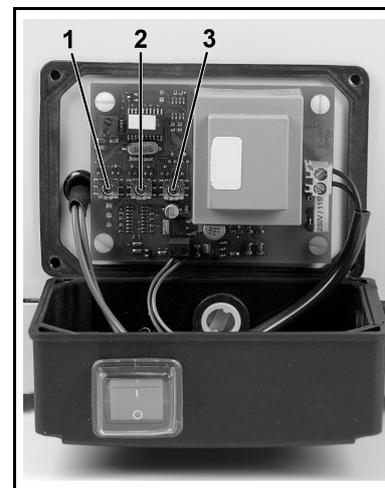

Fig. 4: Control box (opened) of drying system with switches 1, 2, 3
3. At the control box, loosen the collar nut of the cable inlet. Use a slotted screwdriver to release the four screws, then fold the cover forwards and lay it down (see fig. 4).
4. Set the desired values at switches S1, S2, and S3 (see fig. 4). See Table 5 for an explanation of the switches and for the values which can be set.